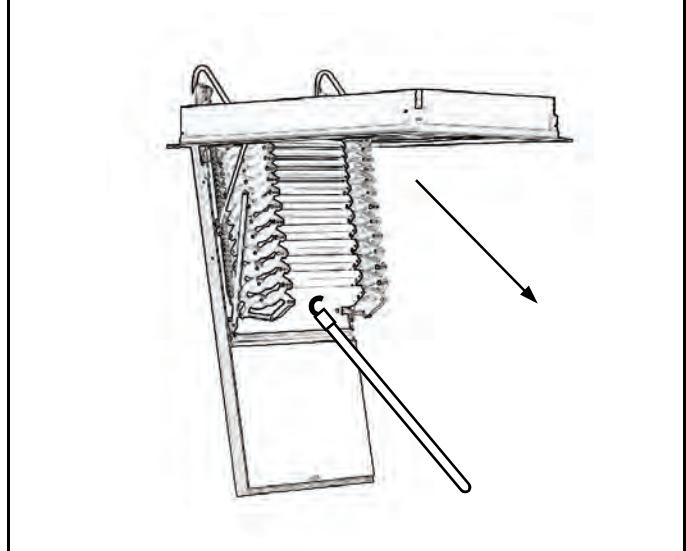
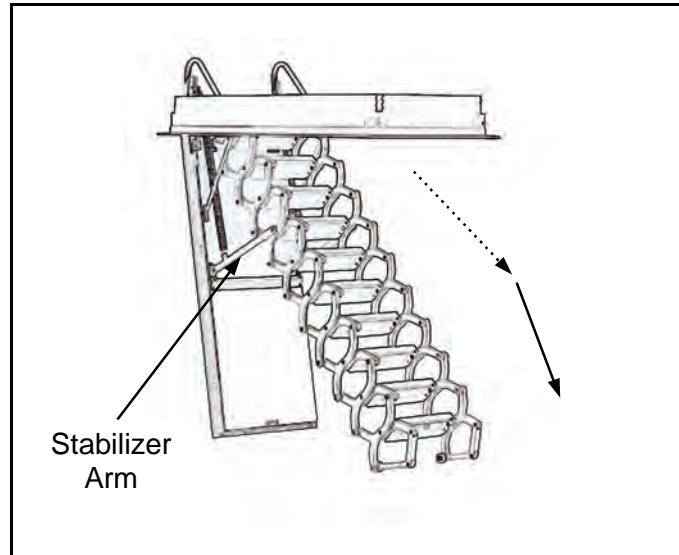

Figure 15
Figure 16
2. Grab bottom tread with hook and pull slightly away from door to start unfolding stair. Figures 15. (**Never pull straight down as the stabilizer arm must swing steps out and away from door before it can be pulled straight down.**) Figures 16 & 17.